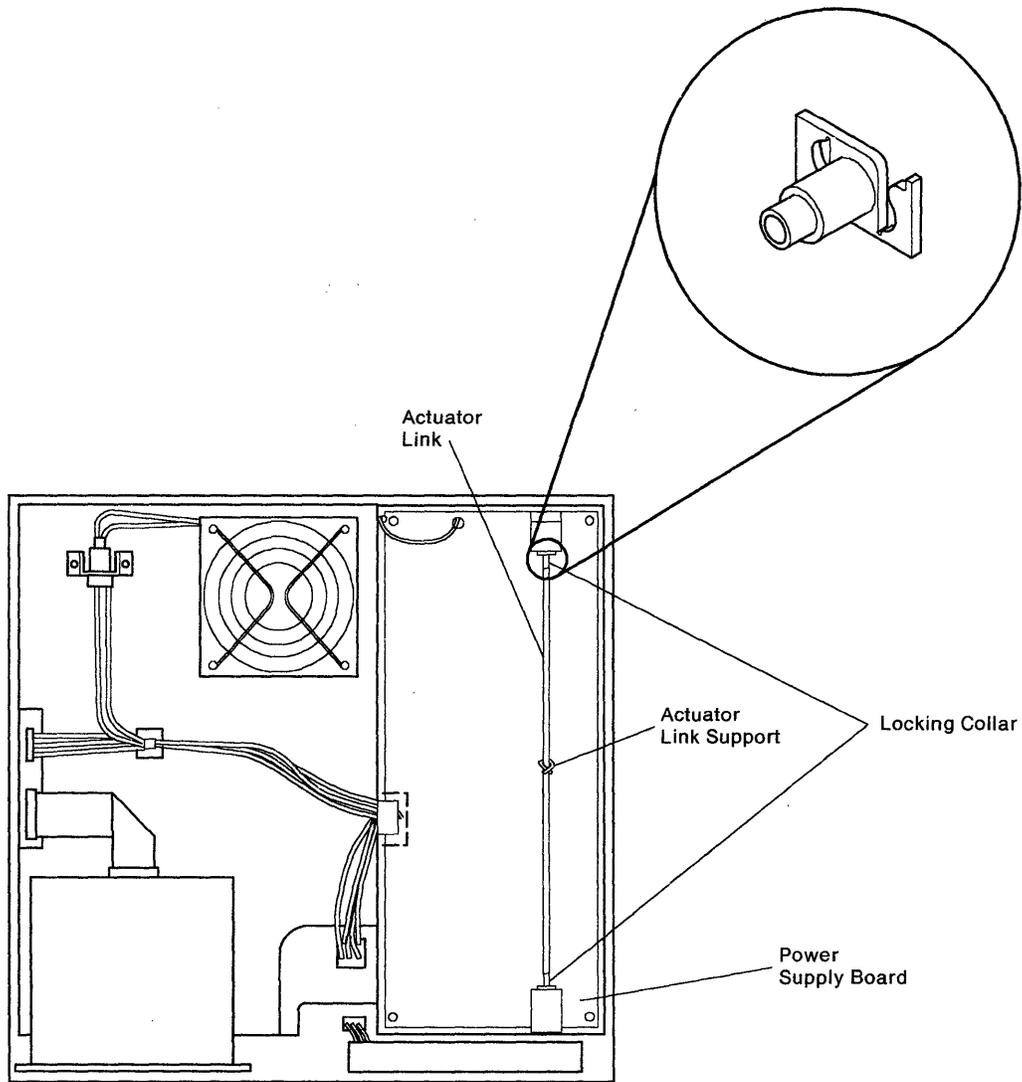

Figure 3-30. Actuator Link
2. Use Figure 3-30 on page 3-36.
2. Use Figure 3-30 on page 3-36 to do the following steps.